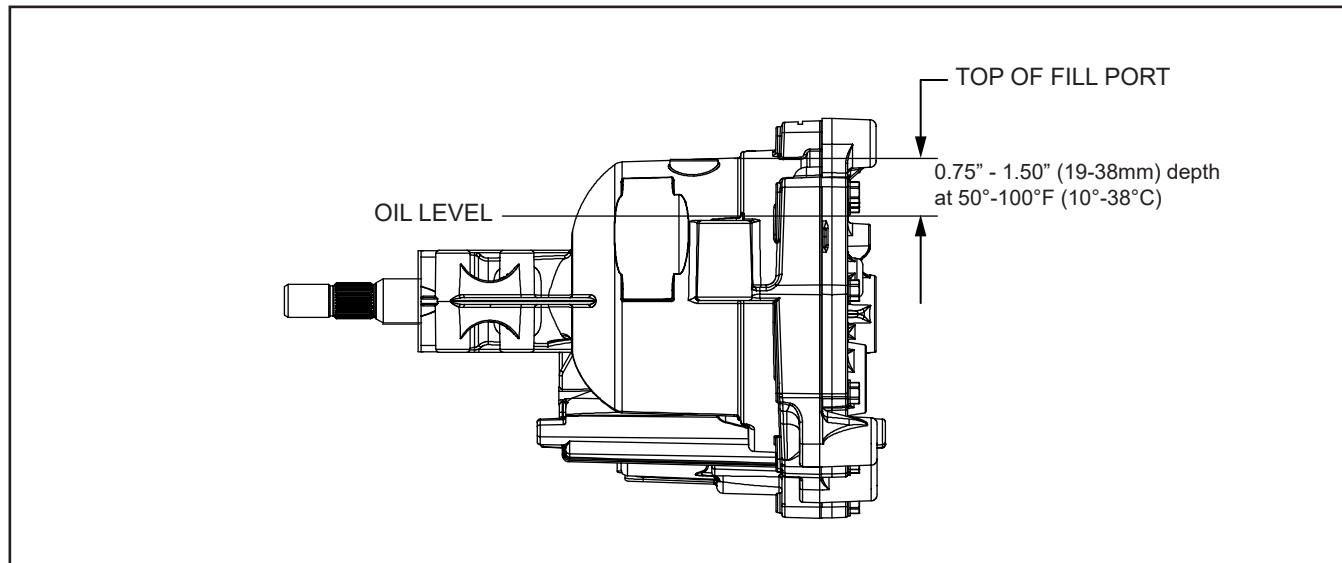

Figure 4. Fluid Level and Fill Port
2. Check oil level in accordance with Figure 4 Page 11.
5. Fill the transaxle at the oil fill port according to Figure 4 below.
7. Fill the transaxle at the oil fill port according to Figure 4 on page 11.
Before starting, make sure the transaxle/transmission is at the proper oil level. If it is not, fill to the specifications outlined on Page 11, Figure 4.